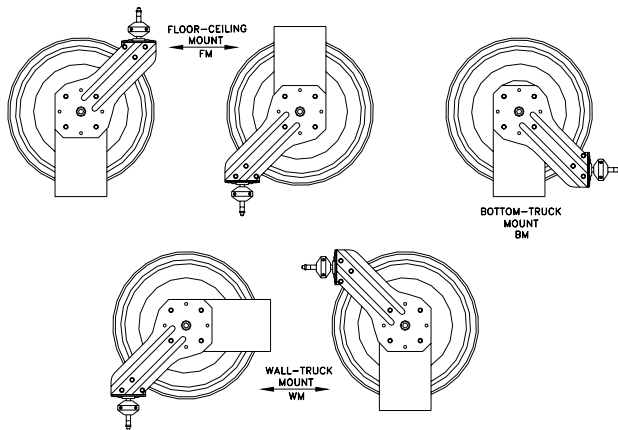
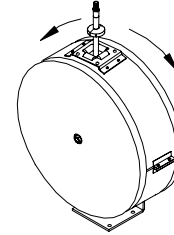

FIGURE 1.0
FIGURE 2.0
- o Guide arm may be adjusted to desired location as shown in figure 1.0. Refer to figure 2.0 for Series EN models.